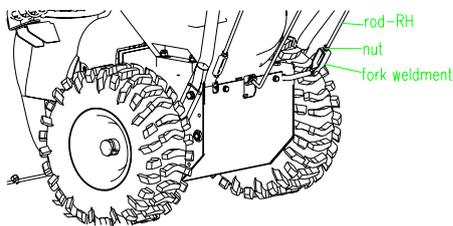

FIG 5
2.4.1 Link the lower extreme of Rod-RH screw thread with fork weldment, and spin to limiting nut. (FIG 5)